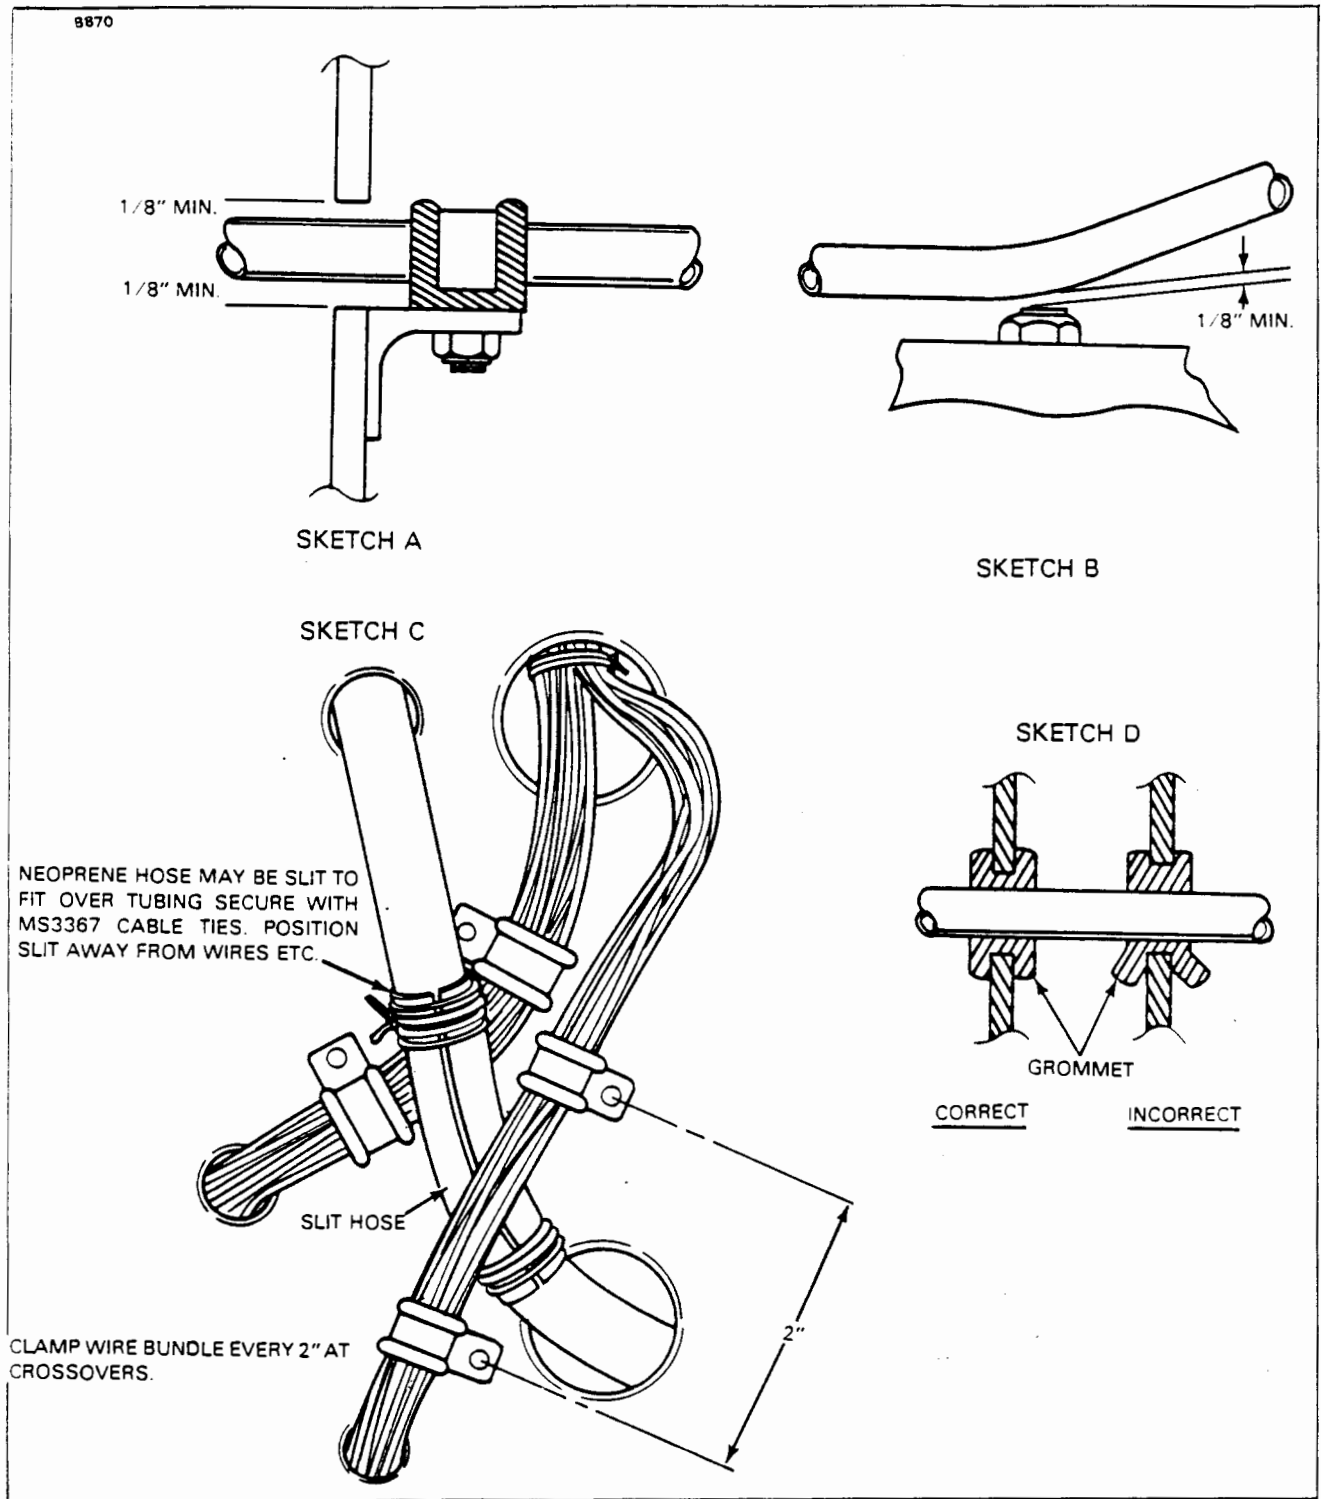

Figure 35-4. Oxygen Tubing Installations
9. Make sure to check the oxygen lines for proper clearance as follows: (Refer to Figure 35-4.)
- (1) When the six inch requirement cannot be complied with, one inch is allowed as long as electrical cables and other lines are supported at least every two inches; and, the oxygen tube(s) is protected by rubber neoprene hose fastened in place with cable ties at the location the specific item crosses or is near the oxygen tube(s). If an item is near the oxygen tube for a certain distance the oxygen tube for that distance must be covered.
- D. A minimum of $\frac{1}{8}$ inch between tubing and structure adjoining the supporting clamp, as shown in Figure 35-4, Sketch A.
- E. Where a tube passes through a grommet, the tube must not bear on the grommet in any way that might cause cutting of the grommet in service as shown in Figure 35-4, Sketch D.
- F. While in service, items may receive vibrations causing them to come in contact with other parts of the aircraft. With this in mind, low pressure tubing that is supported well enough to prevent relative motion must have at least a minimum clearance of $\frac{1}{8}$ inch from a projection (bolt, nut, etc.). Low pressure tubing that cannot be supported well enough to prevent motion must have a minimum clearance of $\frac{1}{4}$ inch allowed after the maximum travel of the tube. High pressure lines are affected similarly but require $\frac{1}{2}$ inch minimum clearances. Refer to Figure 35-4, Sketch B.